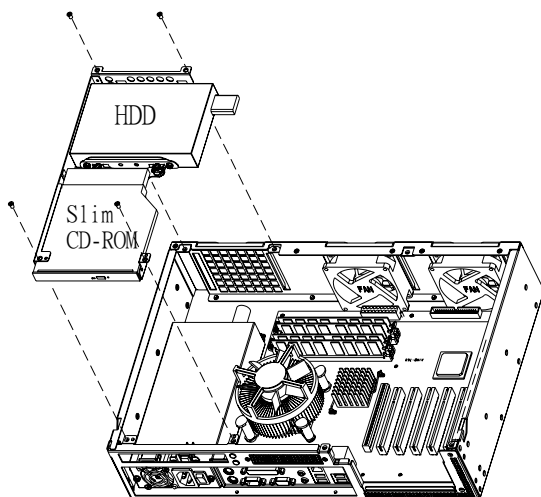

Figure 2-5 Place the drive bay bracket kit into IPC-603MB chassis
5. Refer to Figure 2-5 to return the drive bay bracket kit into the IPC-603MB chassis and fix it with screws.